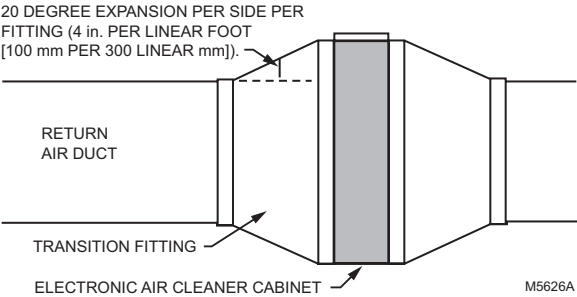

Fig. 4. Change duct size gradually to minimize turbulence.
Transitions are needed when the duct is a different size than the air cleaner cabinet. Gradual transitions reduce air turbulence and increase efficiency. Limit expansion to no more than 20 degrees or about 4 in. per running foot (100 mm per 300 linear mm) on each side of a transition fitting. See Fig. 4.
- ❑ Install a transition when the furnace and air cleaner openings are different sizes. See Fig. 4.
- Mount turning vanes inside the elbow or angle fitting that is directly against the air cleaner cabinet. See Fig. 4.
- Install a transition when the opening in the air cleaner cabinet and the duct are different sizes. See Fig. 4.